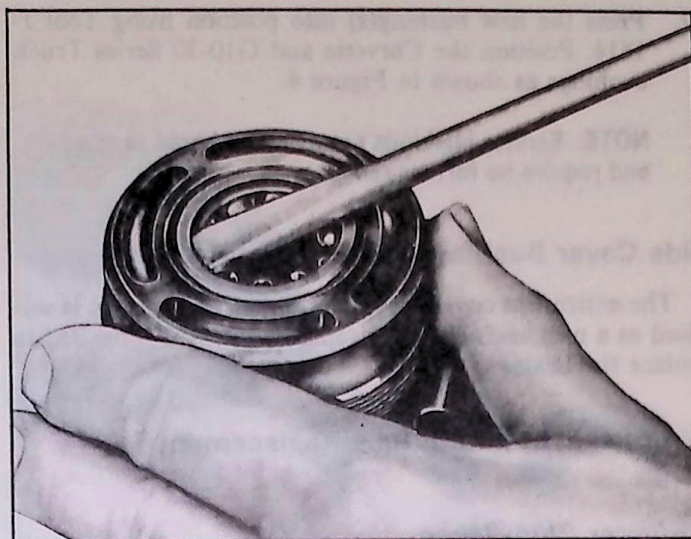

Fig. 7—Removing Lower Bearing Retainer—Except Corvette
8. **All except Corvette**—Using a suitable size screw driver, pry the lower bearing retainer from the adjuster plug housing and remove the bearing (fig. 7).